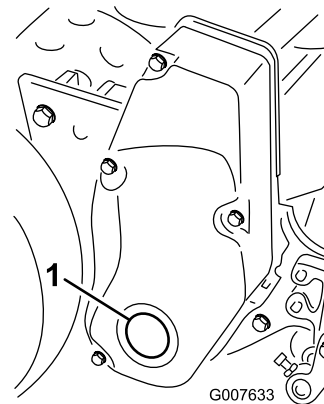

Figure 45
- Remove the plug in the right reel drive cover (Figure 45).